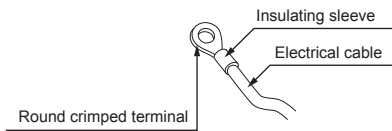

Fig. 6-2
- Use round crimped terminals for the indoor-outdoor connection terminal and the optional power supply terminal kit. [Fig. 6-2]